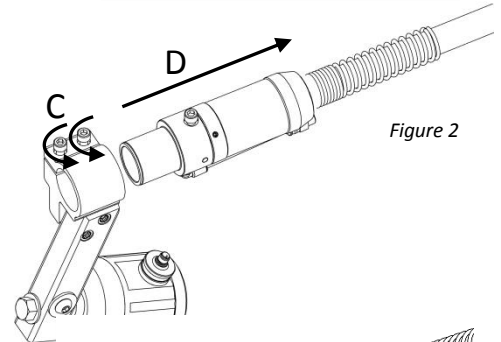

Figure 2
4. Loosen the 2x SHCS in the gun mount using a 5mm Allen wrench (see 'C' in *Figure 2*).
5. Remove the old TOUGH GUN G1 Series uncable (see 'D' in *Figure 2*).